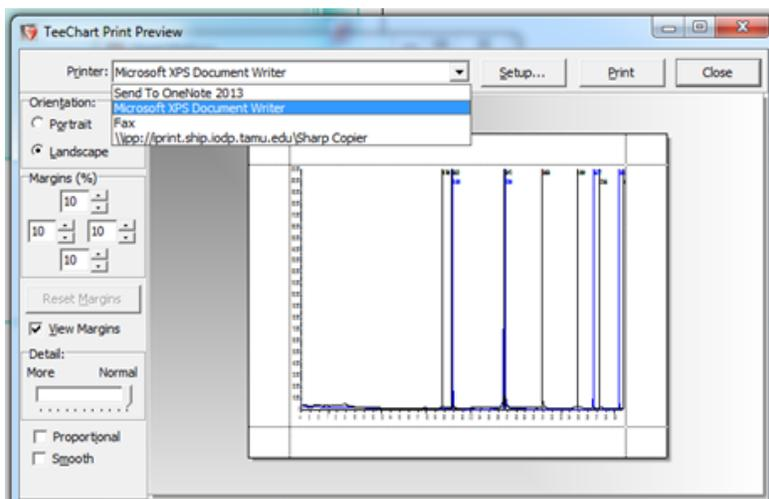

Figure 25. Print Window with Printer drop-down highlighted
3. Select the drop-down menu to select a printer. Choose 'Microsoft XPS Document Writer' to get a digital image of the graph (Figure 25). Then select 'Print'.